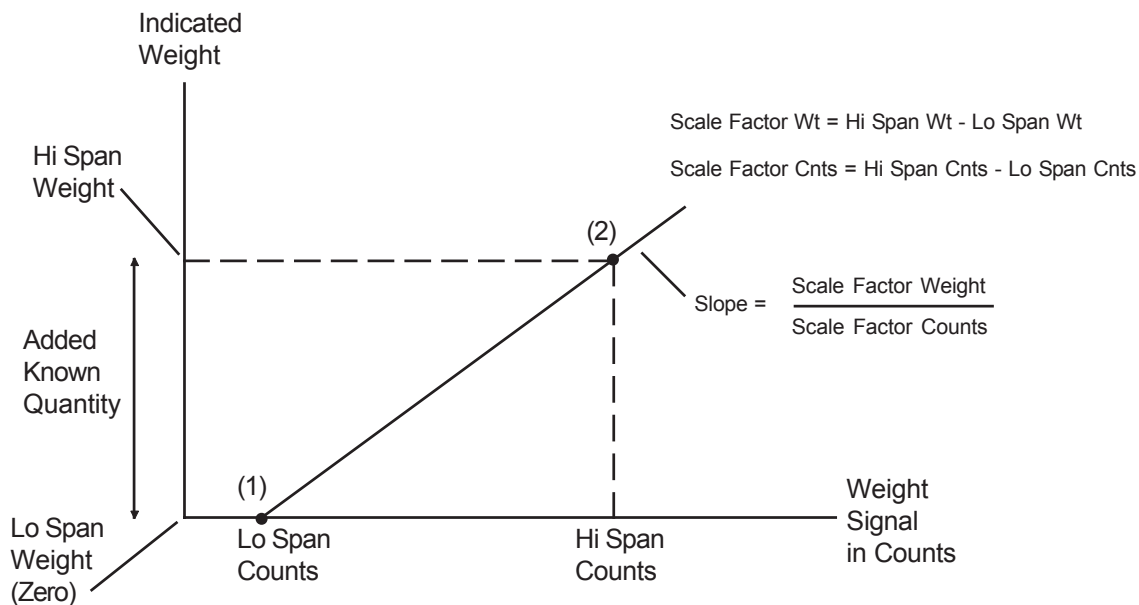

Figure 6-2. High-Accuracy Calibration
The vessel is completely emptied, and the *Lo Span* is set to zero [point (1) in Figure 6-2]. A known quantity of material, representing at least 25% of the vessel's total capacity, is then added to the vessel. That quantity is entered as the *Hi Span* value [point (2) in Figure 6-2]. The Weigh II saves in memory the Lo and Hi Span weights as well as the digital counts associated with each weight. These values define the straight line shown in Figure 6-2. The slope of the line is called the Scale Factor, which is calculated internally.
8. Use the keypad or the Up and Down Arrow Keys to input zero as the *Lo Span* value. Press the Enter Key to save the value in memory. *Lo Span* is now set [point (1) in Figure 6-2]. The display flashes a message acknowledging your entry and returns to:
11. Use the keypad or the Up and Down Arrow Keys to input a value that represents the quantity of material added to the vessel. Press the Enter Key to save the value in memory. *Hi Span* is now set [point (2) in Figure 6-2]. The display flashes a message acknowledging your entry and returns to: